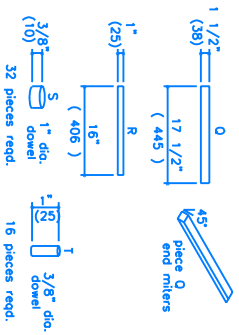

FIGURE 5
2) To make the backgambon board, draw a light line in pencil 6" from each of two edges to mark your triangle open points. Make marks on these lines 7 1/2" from each edge to show the locations of the middle separator. Mark the open points on the lines starting from the middle separator, 6" from each edge. Draw a 1/4" thick and with an easier, remove any unnecessary guide lines. Point or stain the triangles light and dark to ensure you do not "go over the lines" when staining dark areas. Similarly, draw and point or stain the chess/checker board on the opposite side of the piece, the squares are 2" wide. Lay out piece P, backgambon side up. Blunt the ends of 1 1/4" finishing nails and nail R to the center of P (Fig 5). Nail pieces Q to piece P. The bottoms of Q and P should be flush on chessboard side of board. Set the nails and fill with wood filler. Stain or point half the divisions dark, the other half light.